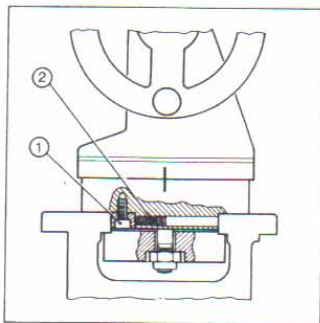

Fig. 27
Refer to Fig. 27, page 23. Release gib securing screws ① and re-tighten until just nipped.